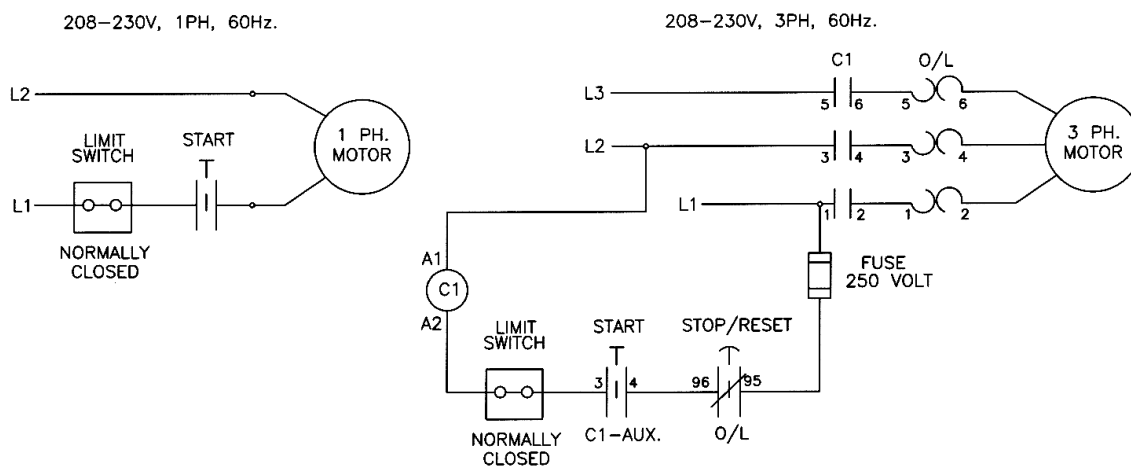

Figure 11 – Electrical Diagram
- Bolt power pack to the mounting bracket on the power side tower using four (4) 5/16" UNC x 1" LG. hex head bolts, four (4) 5/16" ID lock washers, four (4) 5/16" ID flat washers and four (4) 5/16" UNC hex nuts. Do not tighten.
- A **certified electrician** must connect power to the motor. The electrical diagram is provided, refer to **Figure 11**.